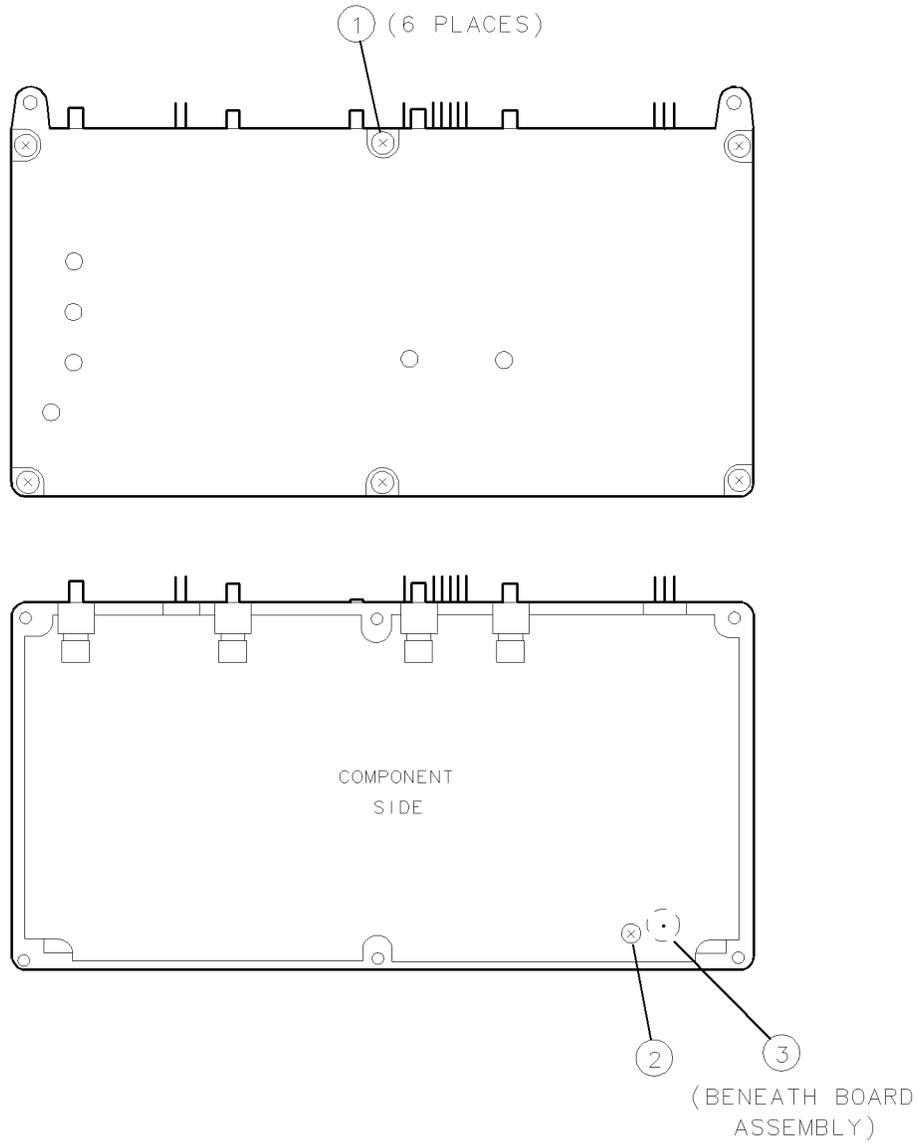

Figure 9-5. A4A1 300 MHz Amplifier Removal/Replacement
2. Remove six screws ① from the A4A1 300 MHz amplifier. To remove the cover, hold the assembly top-side down, then lift the assembly off the cover. This allows the gaskets to remain in their associated channels. See Figure 9-5. Do not lose any RFI gasket material.
3. Remove the screw ② securing the assembly to the casting and lift the assembly straight up. Do not bend the feedthrough pin ③, which is inserted into a socket on the back of the board assembly.